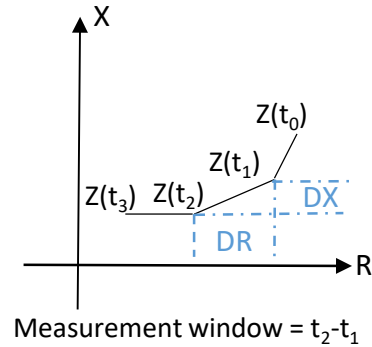

Figure 2-3 Continuous impedance calculation
- ❑ **Enable Continuous Impedance Calculation based detection:** If checked this option enables the following data inputs. See also Figure 2-3.